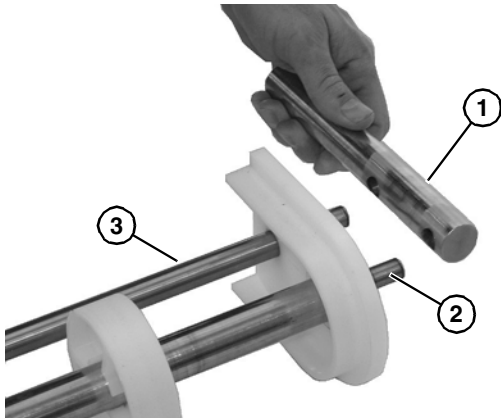

Figure 62
2. Remove the bearing end rod (**Figure 62, item 1**) from idler shaft (**Figure 62, item 2**) and pinch guard shaft (**Figure 62, item 3**).